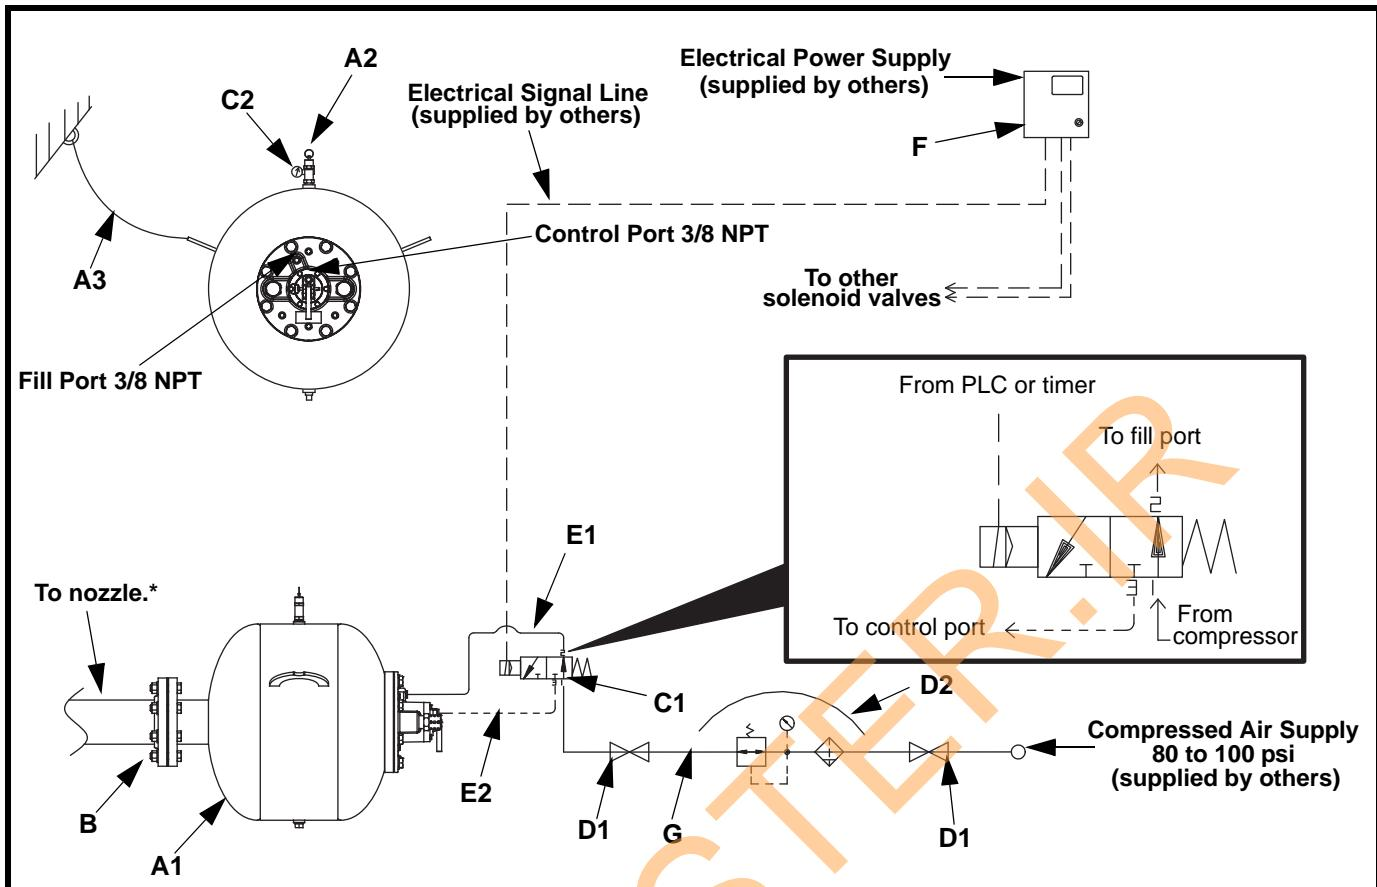

Figure 15. Plumbing Detail for Normally-Opened Solenoid Valve
3. Remove recessed hex-head screw from the valve's fill port. See Figure 15, 16 or 17.
- a. If using a normally-opened solenoid valve, connect the 3-way electric solenoid valve outlet port (2) to exhaust valve fill port. See Figure 15.